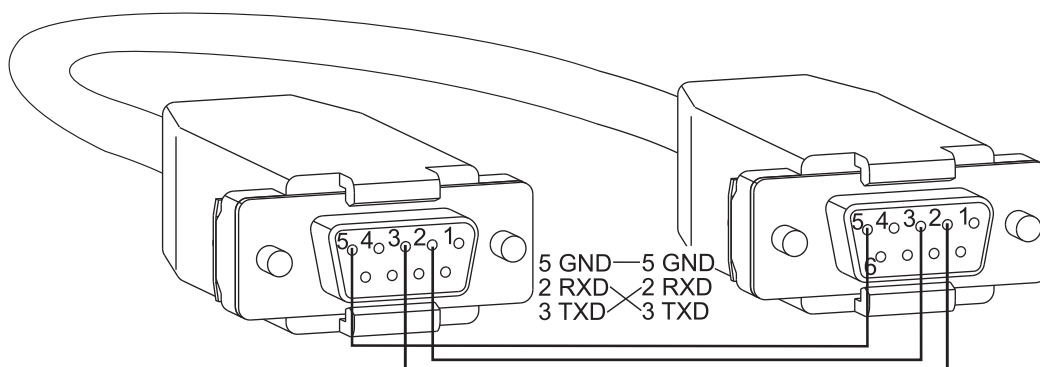

FIG. 9 RS-232 null modem pin diagram, no hardware flow control
1. Use a null modem cable that matches the pin diagram in FIG. 9 for RS-232 without hardware flow control. AMX AutoPatch equipment requires pins 2, 3, and 5 only.